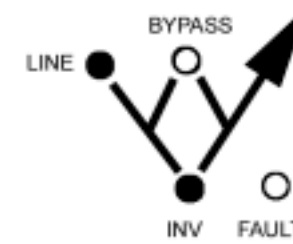

Fig2-1
4. Turn on the switch of the UPS, the output will transfer from the bypass to the inverter after 20 seconds, the display is shown as Fig 2-1.
The main mode is one of the two operating modes of the UPS. The UPS operates on this mode when the ac utility is normal. During this mode, the battery of the UPS charges. Please refer to Fig 2-1 for the display on the UPS in this mode.